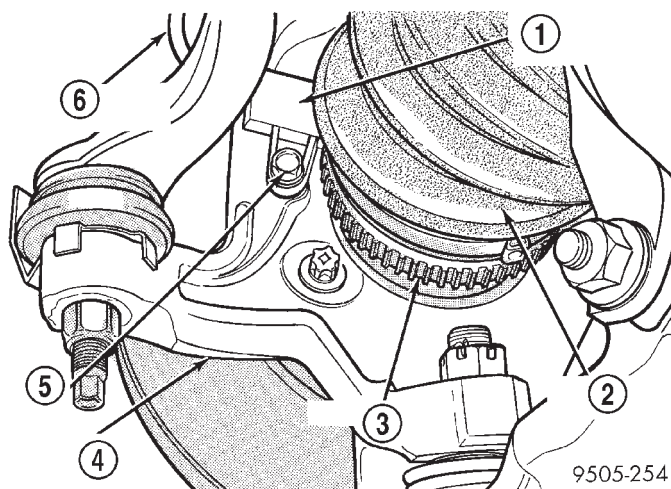

Fig. 42 Speed Sensor Head Attachment To Steering Knuckle
(5) Remove bolt (Fig. 42) attaching speed sensor to steering knuckle. Then remove speed sensor head from steering knuckle